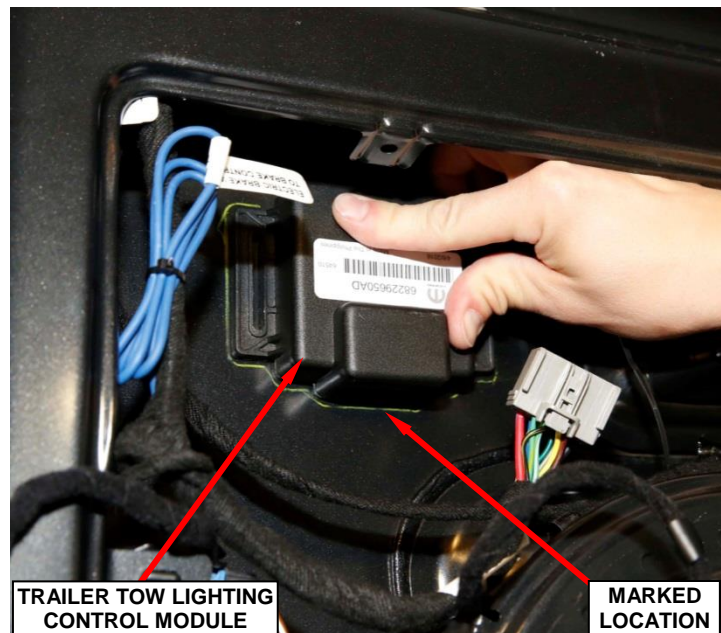

Figure 24 – Press And Hold New Module
27. Place the new trailer tow lighting control module in the previously marked location (Figure 24).
28. Press and hold the new trailer tow lighting control module in place applying constant pressure to for 30 seconds to ensure proper adhesion of the foam patch to the vehicle (Figure 24).